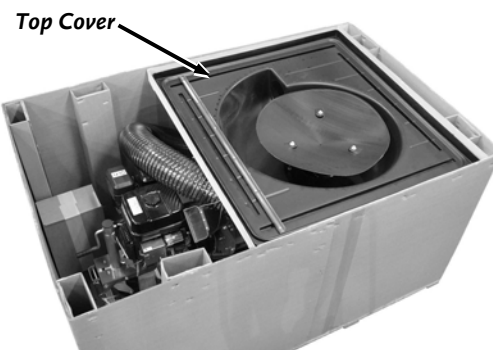

Figure 2
3. Lift the Top Cover from the Shipping Container and set aside (**Figure 2**).